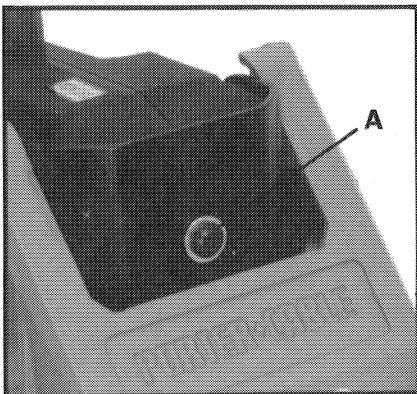

Fig. 2
1. Use 5/32" hex wrench (furnished with Pocket Cutter®) to loosen top motor mounting screw (A) Fig. 2.
2. Tilt motor unit down and loosen top motor mounting screw (A) Fig. 2.